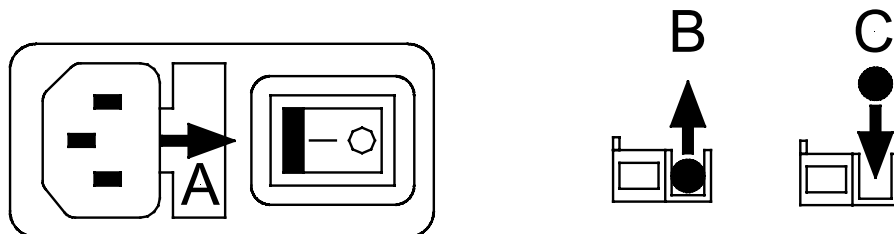

Figure 44 – Changing the Mains Fuse
Referring to **Figure 44**, remove the power cable, use a small flat bladed screwdriver to pry up the tab on the fuse carrier (A) and pull it out. Push the blown fuse out of the clip in the carrier (B) and dispose of it. Fit a new fuse in the clip (C) and push the carrier back into the unit so that it clicks home.